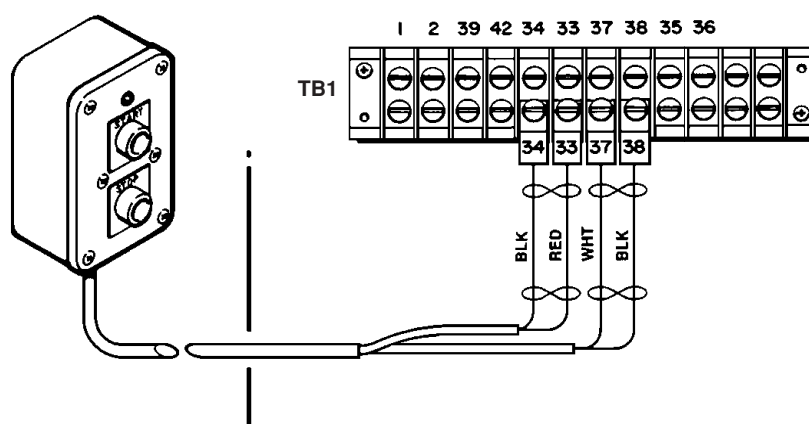

Figure 3-3 Remote Start/Stop Switch Connections
2. Connect wires 33 and 34 to TB1-5 and TB1-6 for machine “start.” (See Figure 6-5 for location of TB1, and Figure 3-3 for detail of TB1.)